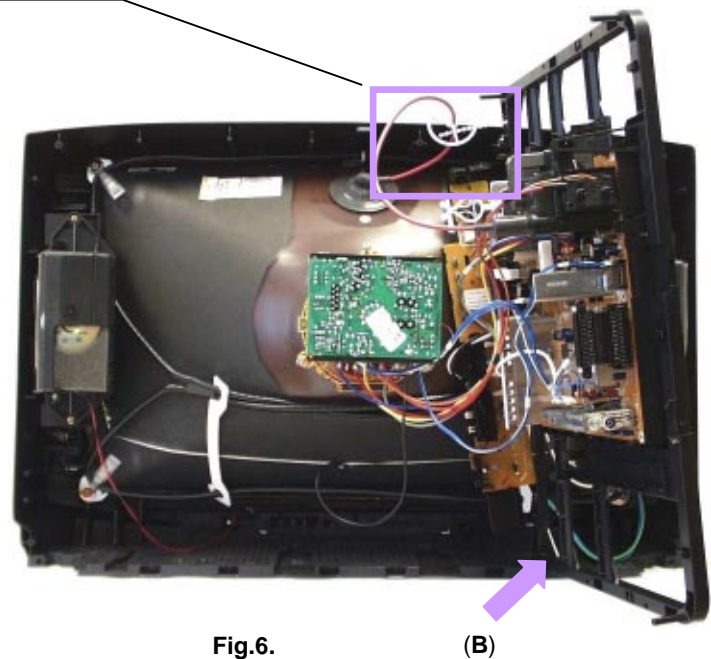

Fig.6.
4. Locate the base of the chassis frame into the hole (B), shown in Fig.6.